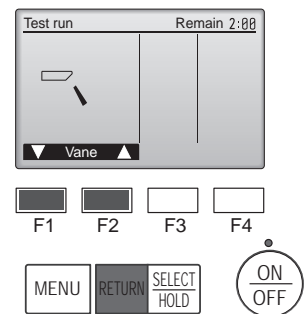

Fig. 7-7
- ① Check the auto vane with the [F1] [F2] buttons. (Fig. 7-7)
- ② Press the [RETURN] button to return to "Test run operation".
- ③ Press the [ON/OFF] button.